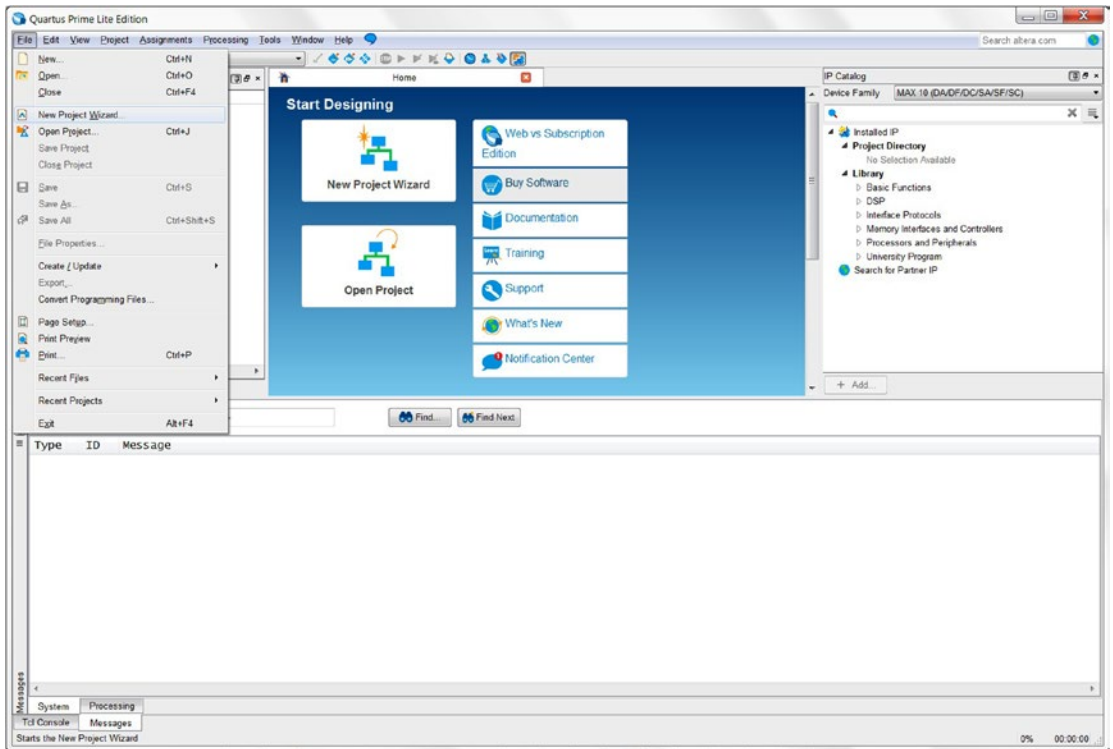

Figure 4-2. Create a new project from the File tab or Home Page
2. Create a new project by clicking **File ► New Project Wizard** or click the **New Project Wizard** on the Home page tab (Figure 4-2).